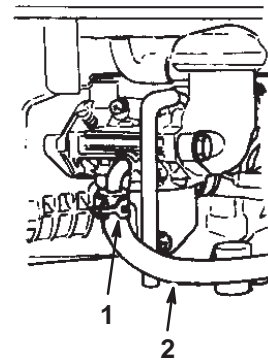

Figure 28
- Remove the fuel tube by loosening the tube clamp at the carburetor (Fig. 28).